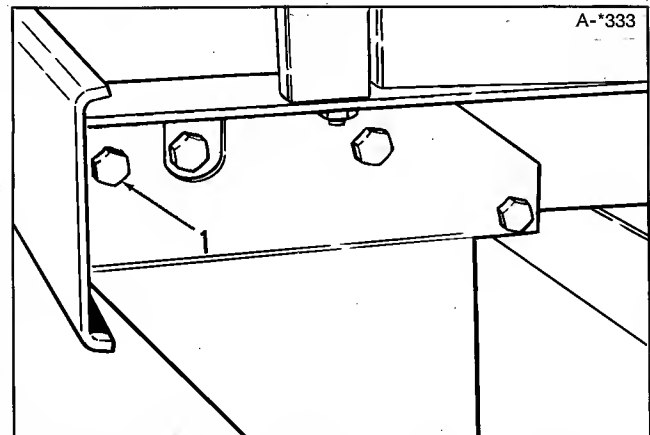
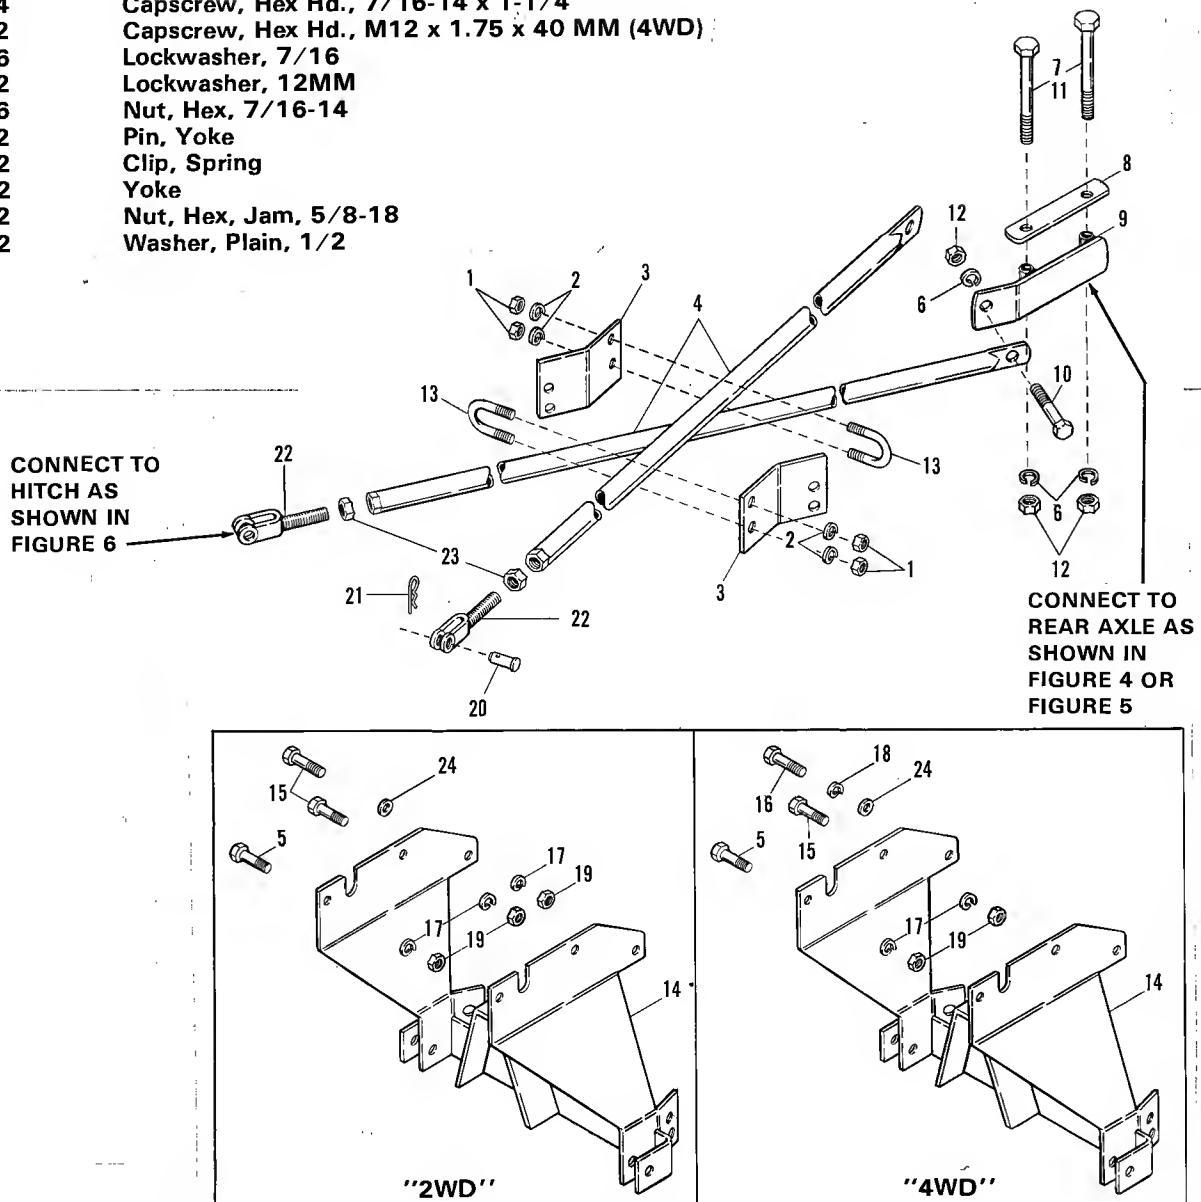

Figure 2.
Figure 8.
Refer to figure 8 to familiarize yourself with the installation.
2. Install the hitch as shown in figure 2. To determine what hardware to use, see "2WD" or "4WD" box in figure 8.